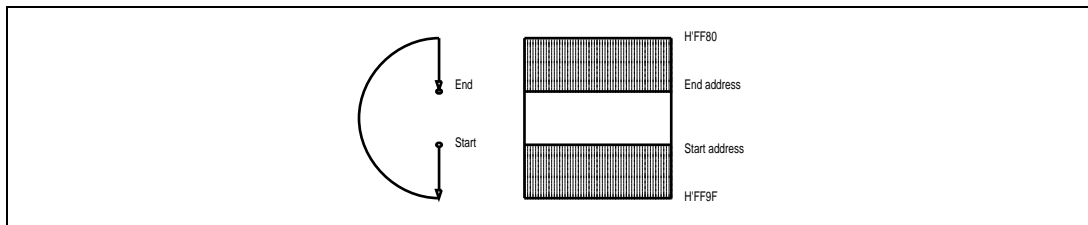

Figure 10-3-4 Operation When End Address is Smaller than Start Address
- The start and end addresses of the transfer data area are set in STAR and EDAR. If the end address is set smaller than the start address, as shown in figure 10-3-4, the transfer wraps around from H' FF9F to H' FF80 and continues to the end address. If the start address and end address are the same, only one byte of data will be transferred.